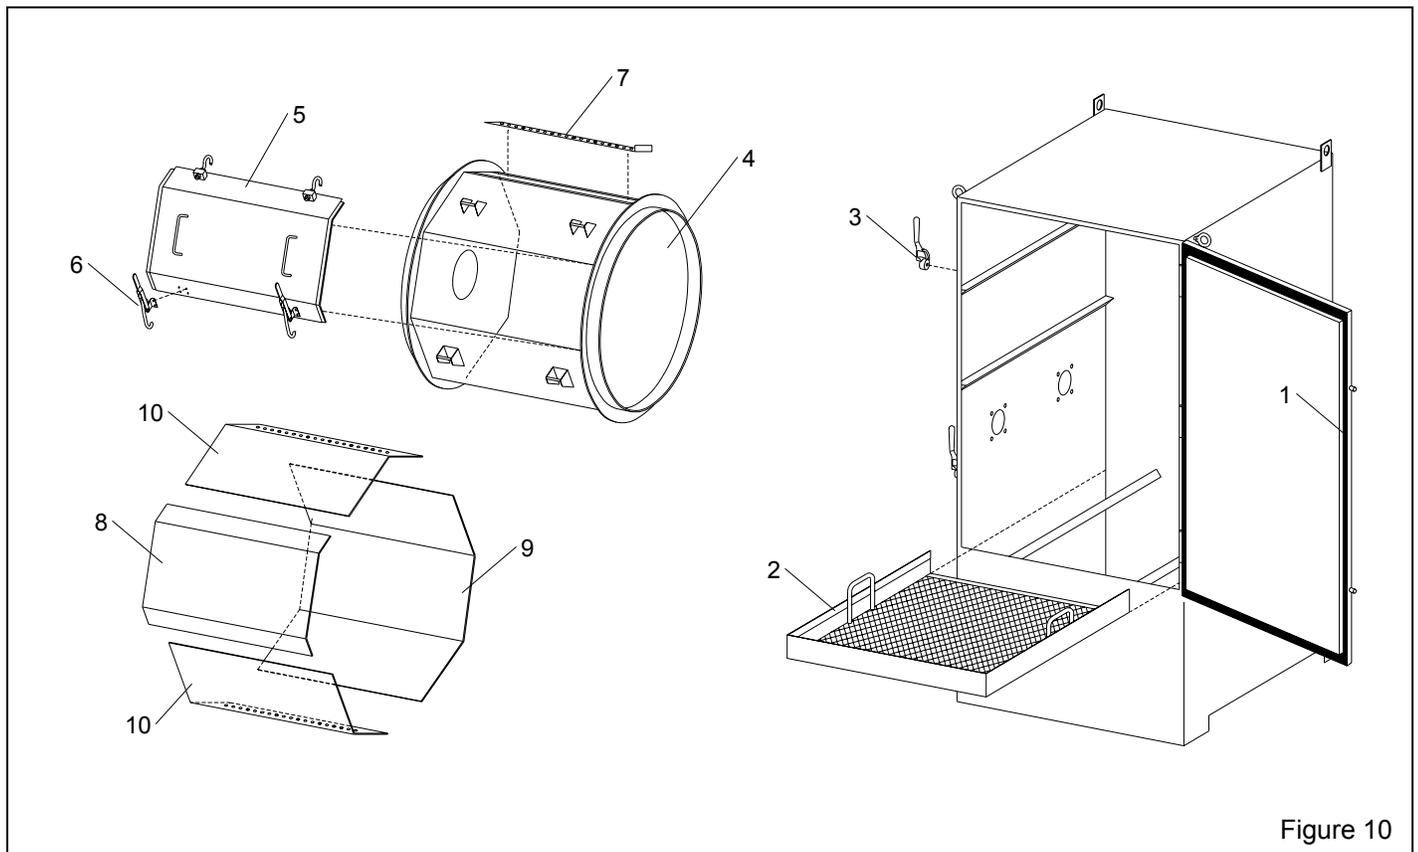

Figure 10
**9.3 Cabinet and Drum Assembly, Figure 10**